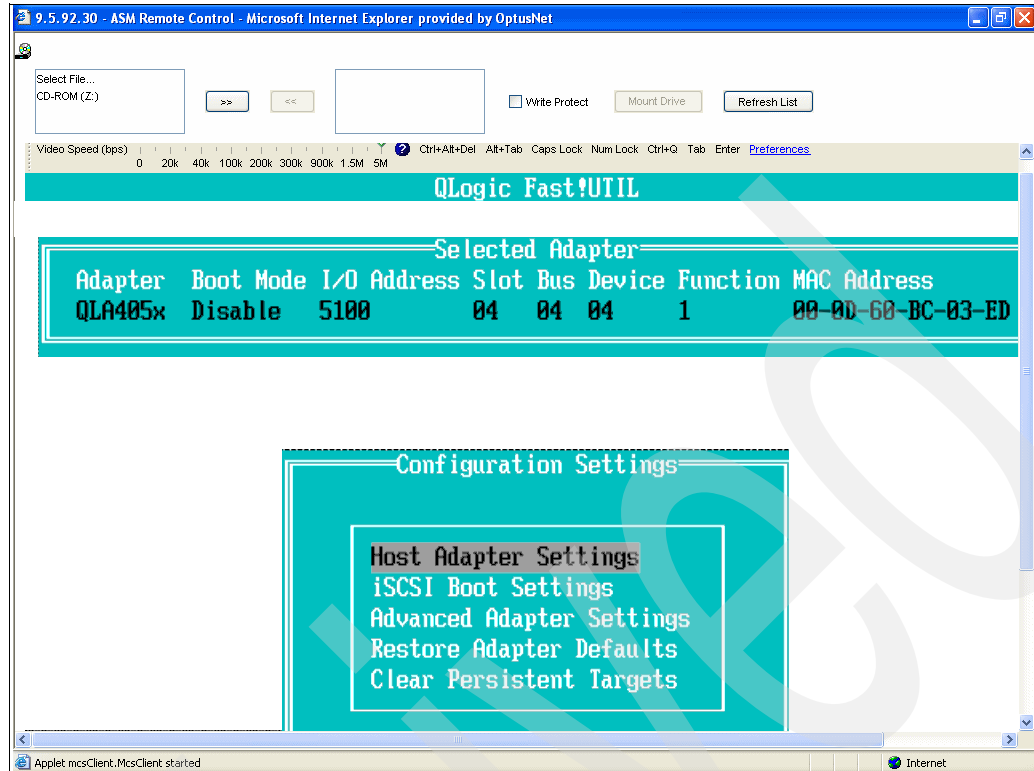

Figure 9-68 The Configuration Settings menu
6. The Configuration Settings menu shown in Figure 9-68 on page 441 appears. You navigate your way around this utility by using the Up and Down arrow keys to select a menu option, then press Enter. To back up, press the Escape key.